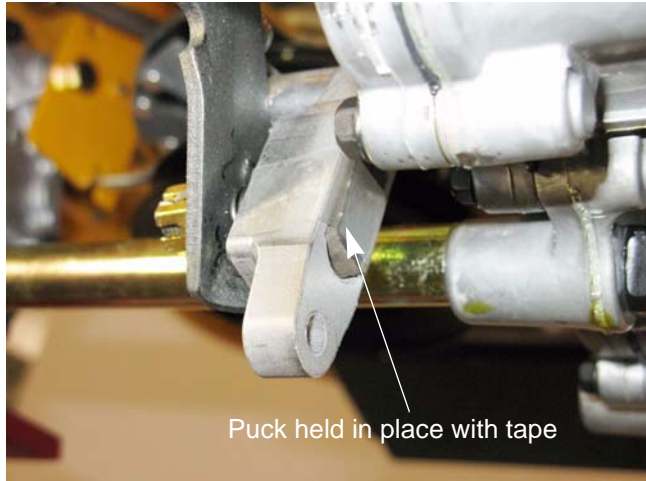

Figure 4.10
14. Place a new puck into the caliper. See Figure 4.10.